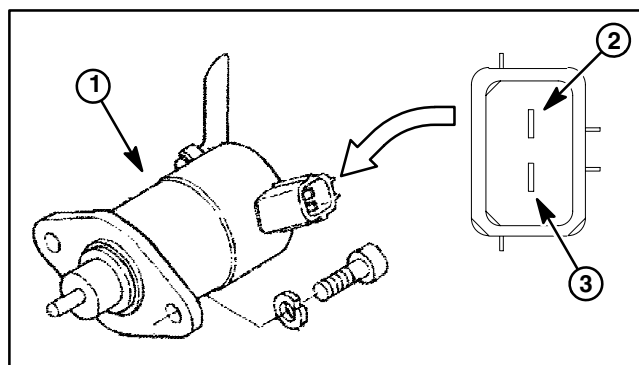

Figure 38
2. Using a digital multimeter, touch one test lead to the pull coil terminal and the other test lead to the fuel stop solenoid frame (ground) (Fig. 38). The resistance of the pull coil should be less than 1 ohm (but not zero).
3. Using a digital multimeter, touch one test lead to the hold coil terminal and the other test lead to the fuel stop solenoid frame (ground) (Fig. 38). The resistance of the hold coil should be approximately 15 ohms.
4. Touch a negative (-) test lead from the 12 VDC source to the fuel stop solenoid frame (ground) (Fig. 38). The solenoid should engage, making an audible “click,” and the plunger should retract.